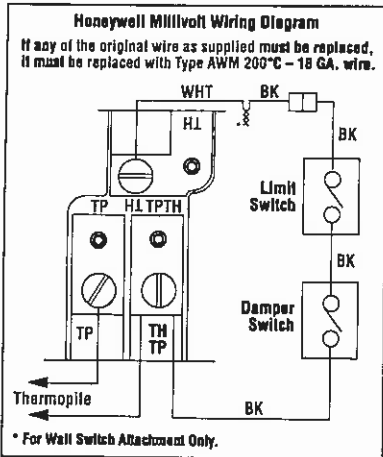
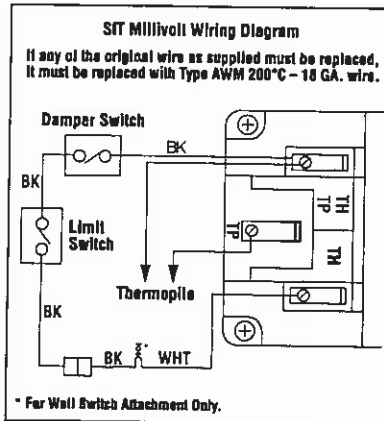

Figure 11
Figure 12
A. Millivolt Wiring – Units may be fitted at the factory with either a Honeywell millivolt gas control valve or an SIT millivolt gas control valve. Both valves have been tested with and approved for use with these appliances and are listed accordingly. Refer to *Figure 11* for wiring of Honeywell systems and *Figure 12* for wiring of SIT systems.
The gas valve has been set in place and has been pre-wired at the factory. No additional wiring is required unless the optional wall switch or optional remote control kit is to be installed. Locate the optional wall switch or optional remote control in the desired location and connect the millivolt wire (see *Figures 11 and 12*).